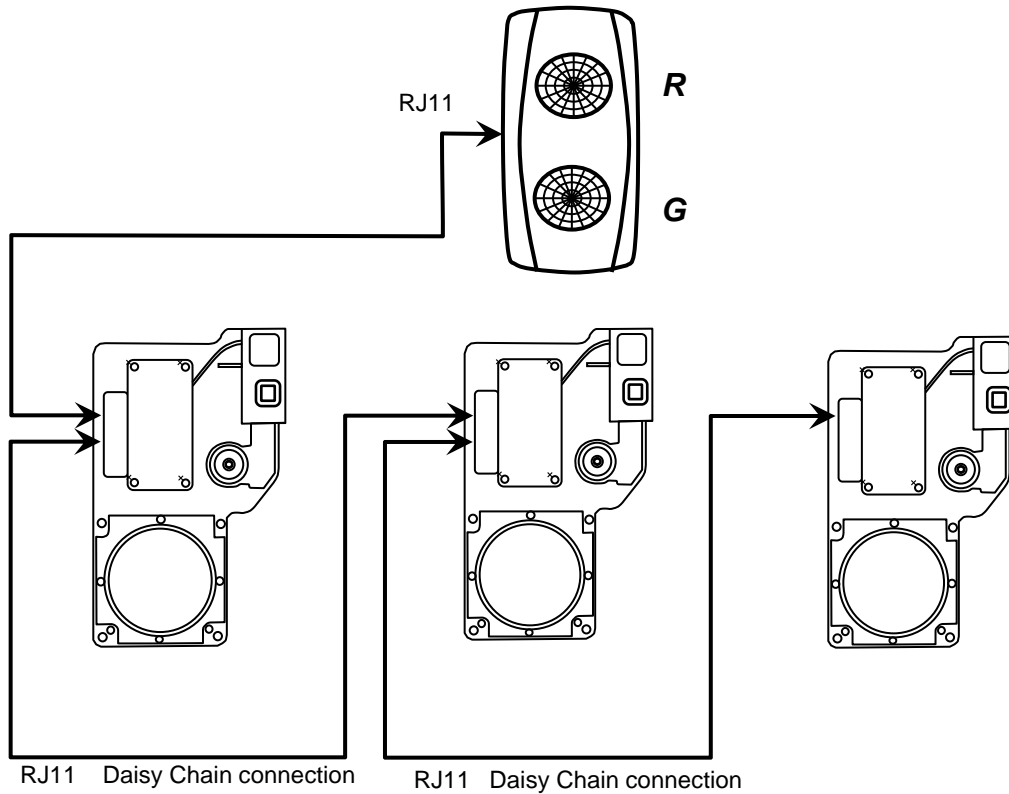

Fig. 15
5. Daisy Chain Operation – SVT switches and the dual ports of the Pro-Series valves facilitate daisy chain operation – one SVT switch and up to 3 valves can be wired using the IP66 cables to provide simultaneous synchronized operation of all valves. Refer Fig 15